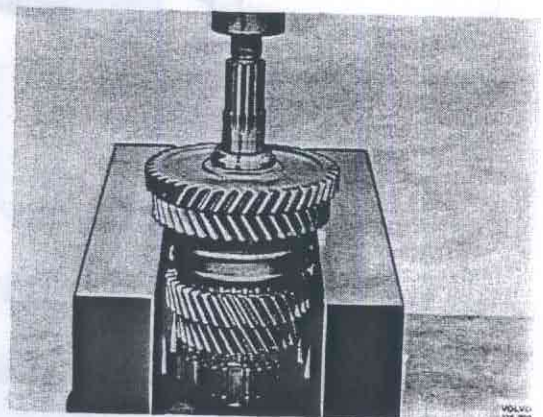

Fig. 43-68. Removing 1st gear
1. Place the shaft in a press with a counterhold under 1st gear, Fig. 43-68. Press off the inner race, the reverse gear and 1st gear. Remove the needle bearing.